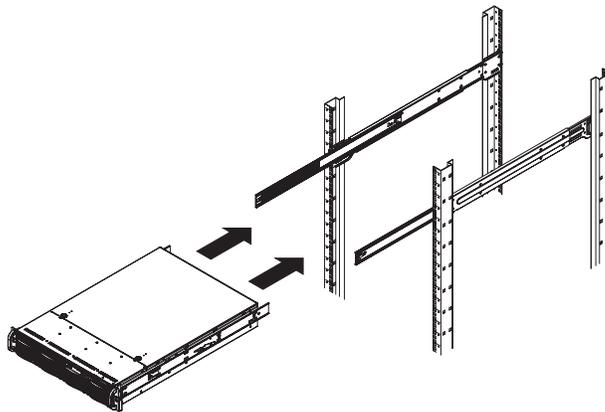

Figure 3-5 Installing the IS2245 in a Rack
You should now have rails attached to both the chassis and the rack unit. The next step is to install the system into the rack (refer to Figure 3-5).
1. Extend the outer rails as shown in Figure 3-5.